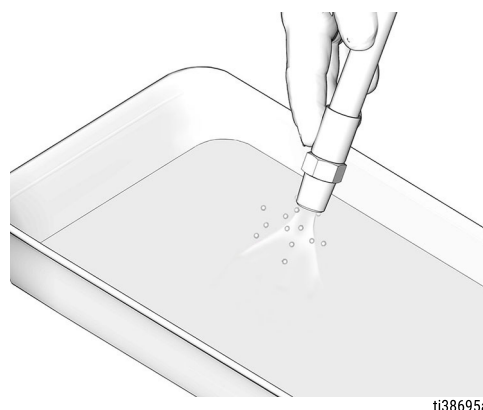

FIG. 2
2. Blow out the entire lubricant supply line with air (FIG. 2).